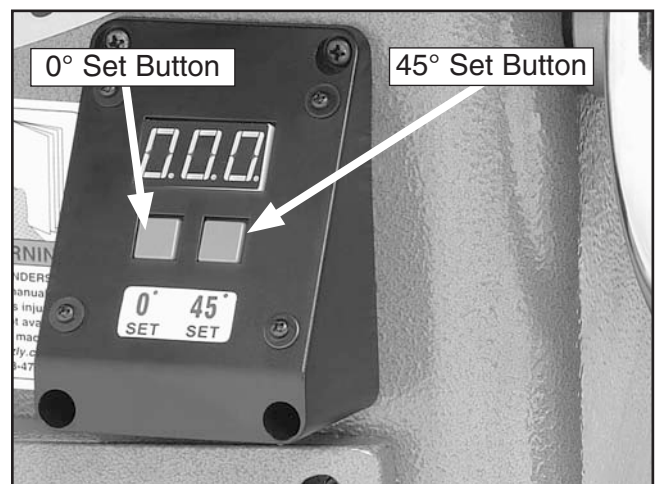

Figure 75. Digital readout.
- Move the blade angle to 0° and press the 0° SET button (**Figure 75**) for several seconds until the readout displays 0.00.